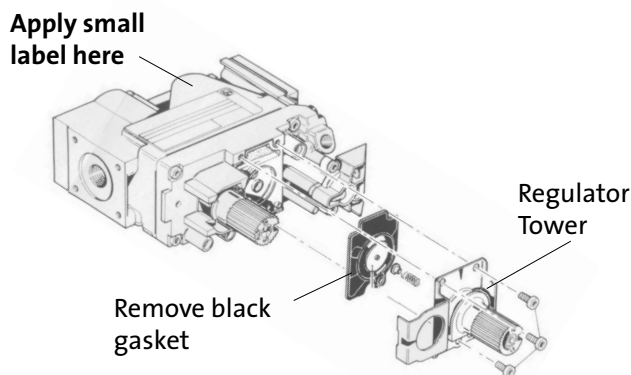

Figure 26. Regulator assembly.
13. Replace the Variable Regulator. Using a Torx T-20 screwdriver, remove the three screws from the front of the valve regulator. See fig. 26.